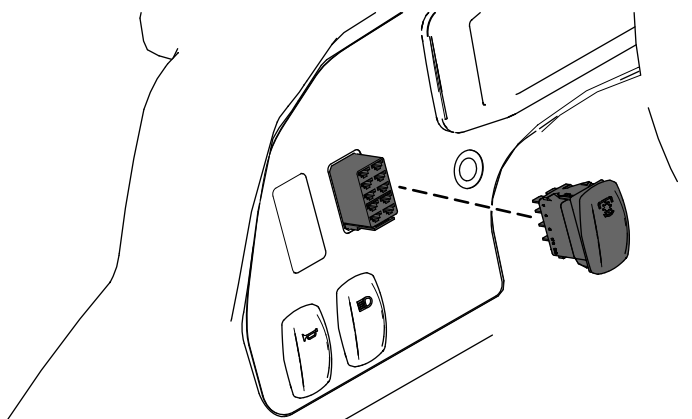

Figure 20
2. Locate the wire harness labeled HIGH-FLOW HYDRAULIC with the loop-back connector and connect the switch to the connector (Figure 20).